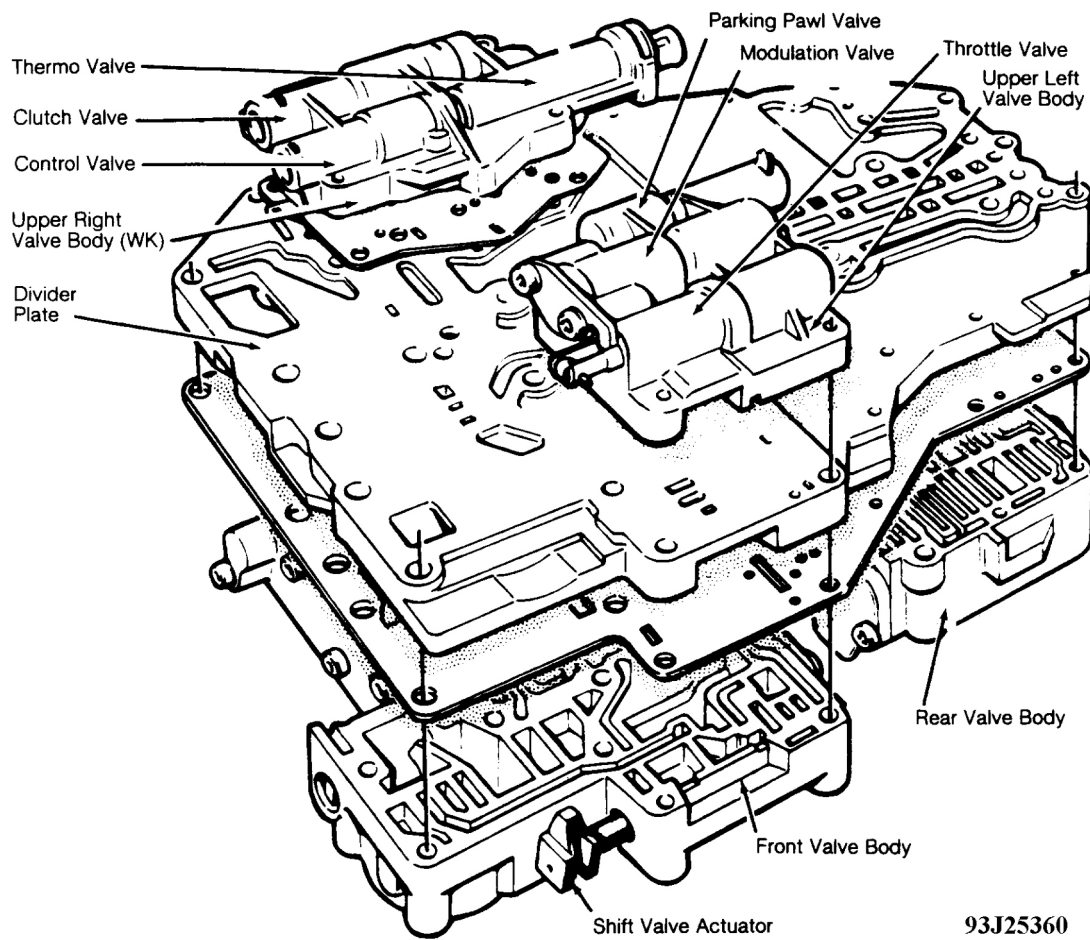
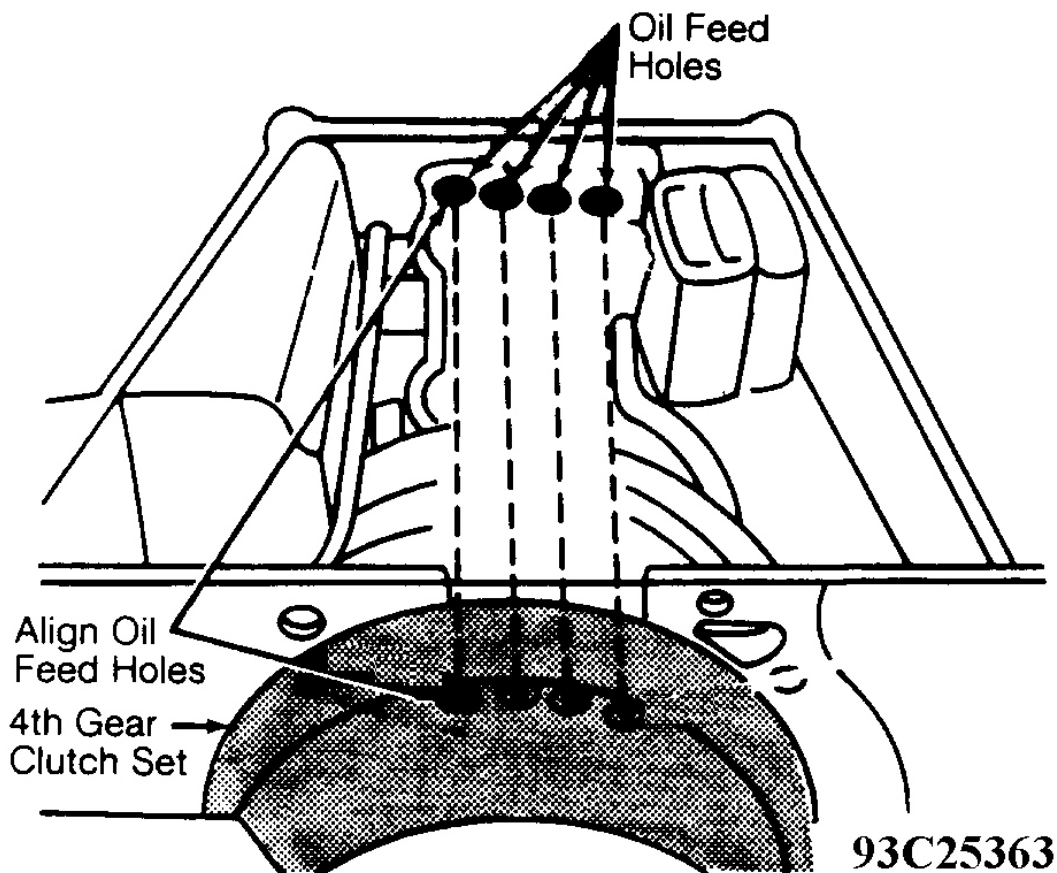

Fig. 21: Exploded View Of Typical Valve Body Assembly
Fig. 24: Aligning Oil Feed Holes
1. Remove screws and separate upper left valve body (throttle valve) from main valve body assembly. Remove reverse inhibit valve, spring and retaining clip. See **Fig. 21 -Fig. 24**.
1. Install 4th gear clutch set into transmission case so 4 oil feed bores are aligned with bores in transmission case. See **Fig. 24** . Install and tighten 4th gear clutch set-to-transmission case Torx bolts from rear of transmission case.